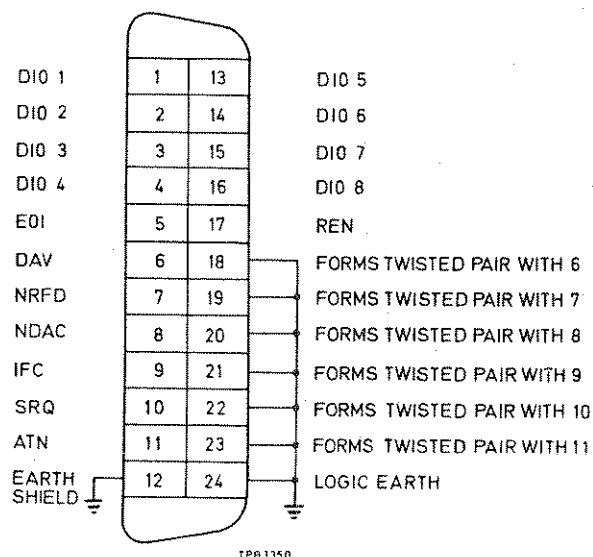

Fig. 6 GPIB connector contact assignments
72. The contact assignment of the GPIB cable connector and the device connector is as shown in Fig. 6 below.